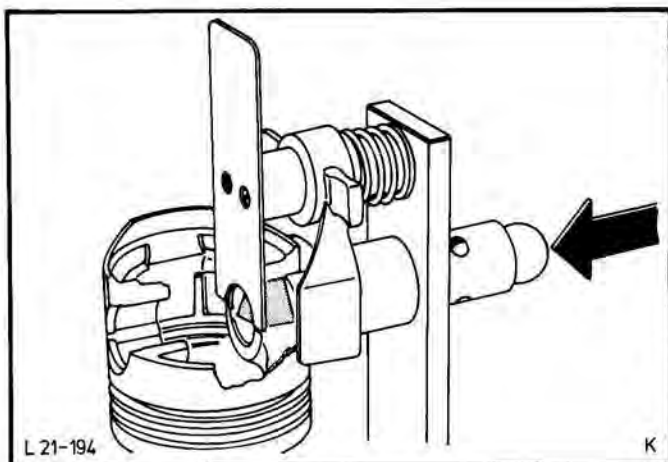

Fig.123. Slide guide pin through the pin bore as far as the stop.
5. Clamp piston with the front mark facing away from the installer. Moisten both pin bores with engine oil and slide the guide pin through the piston pin bore as far as the shoulder, Fig.123.